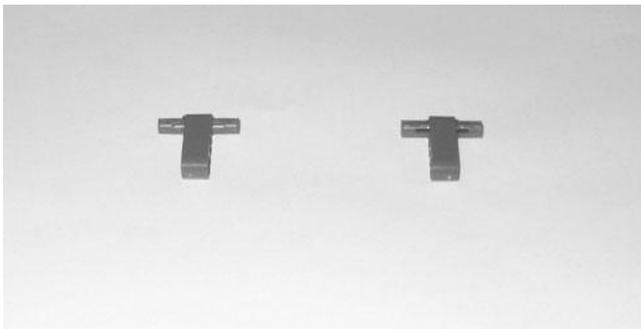

Figure 11.5
Step 2: Attach two connector pegs with friction 3M to two 3M straight beams, as shown in Figure 11.5.